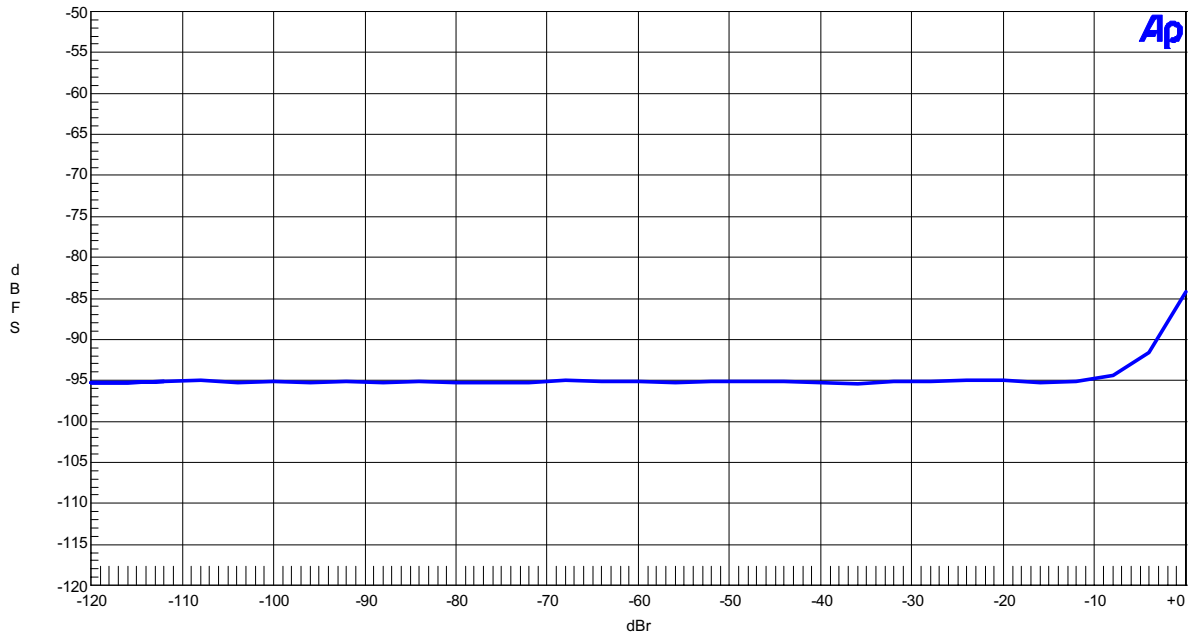

Figure 2-4. THD+N vs Input Level (fin=1kHz)
- Figure 2-4. THD+N vs. Input Level (fin=1kHz)